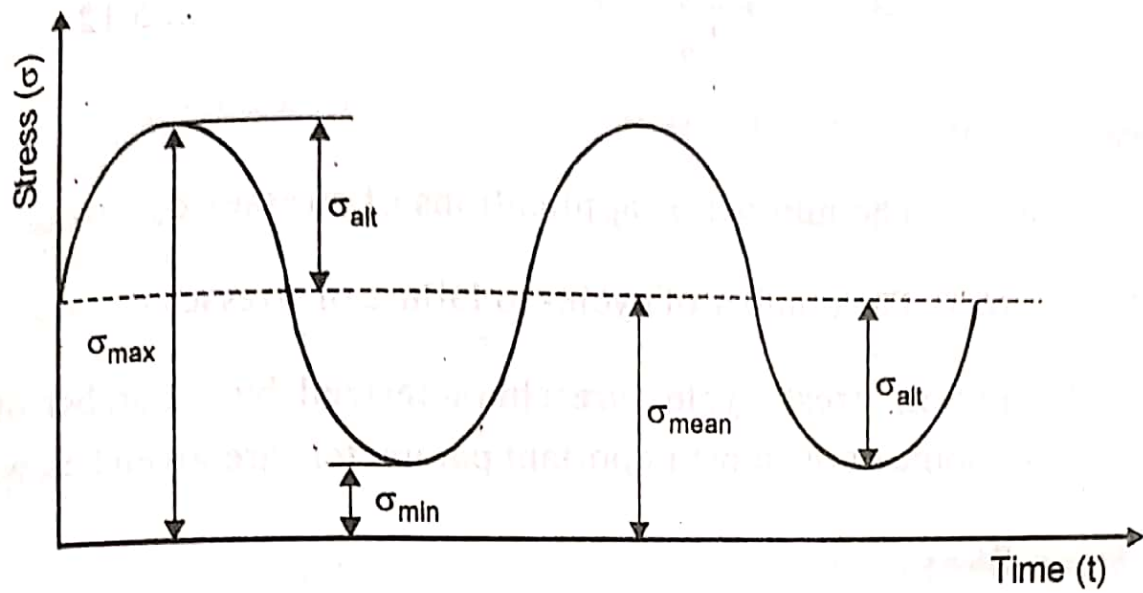

Figure 5.2 Alternating stress in fatigue loading
The alternating stress, that can be withstood for a specified number of cycles is called the fatigue strength of the material (Figure 5.2). Some materials possess a stress level that can be withstood for an indefinite number of cycles. This limiting stress is called the endurance or fatigue limit of the material. The results are plotted as a graph representing the stress (S) and number of cycles to failure (N). This graph is called an S-N or Stress-Cycle diagram